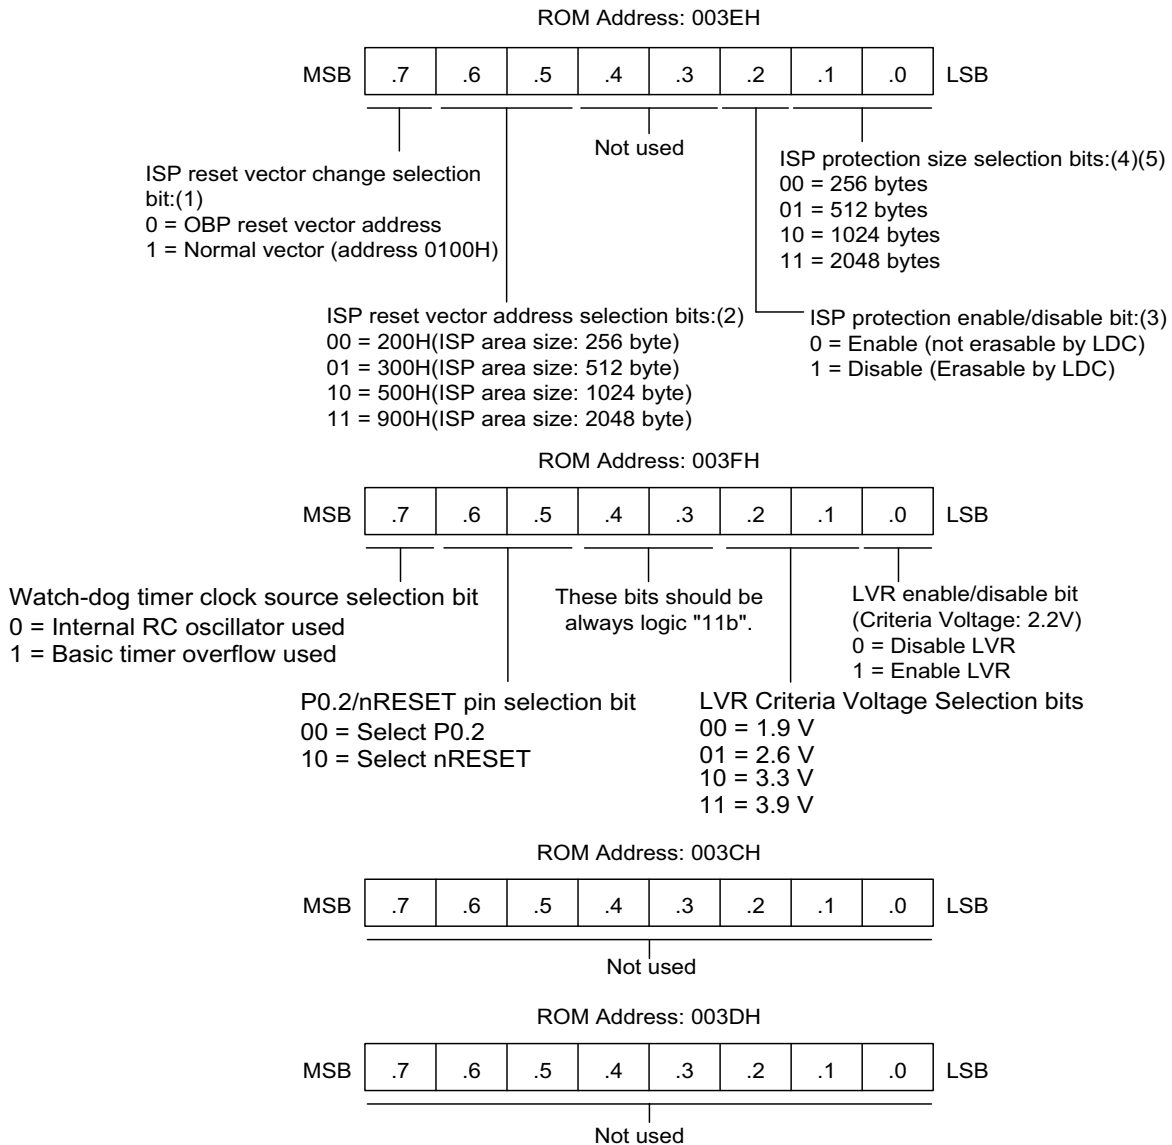

Figure 17. Smart Option
The *Smart Option*, diagrammed in Figure 17, is the ROM option for the start condition of the chip. The ROM address used for the smart option ranges from 003Ch to 003Fh. The S3F8S45 MCU uses only addresses in the range 003Eh to 003Fh.
- In Figure 17, by setting ISP reset vector change selection bit (3Eh.7) to 0, the ISP area becomes available. If this bit is 1, 3Eh.6 and 3Eh.5 are rendered meaningless.